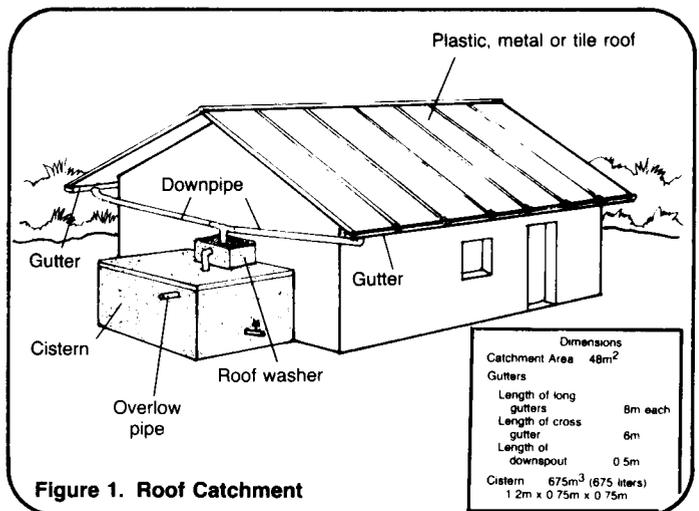

Figure 1. Roof Catchment
2. A plan of the roof catchment system with all measurements as shown in Figure 1.